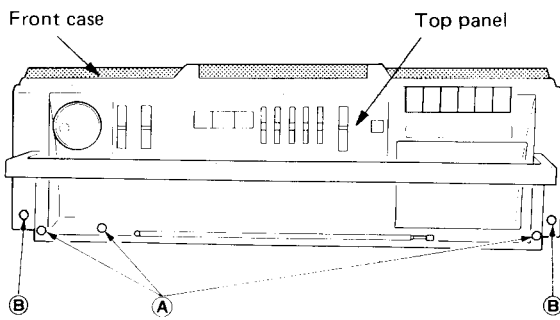

Fig. 3
3. Top Panel (Fig. 3, 4, 5)
- (1) Remove the (A) fixing screws (6) shown in Fig. 3, 4, 5.
- (2) Press the EJECT button to open the cassette lid and lift the top panel holding the rod antenna side to remove it.
4. Front Case (Fig. 3, 4, 5, 7)